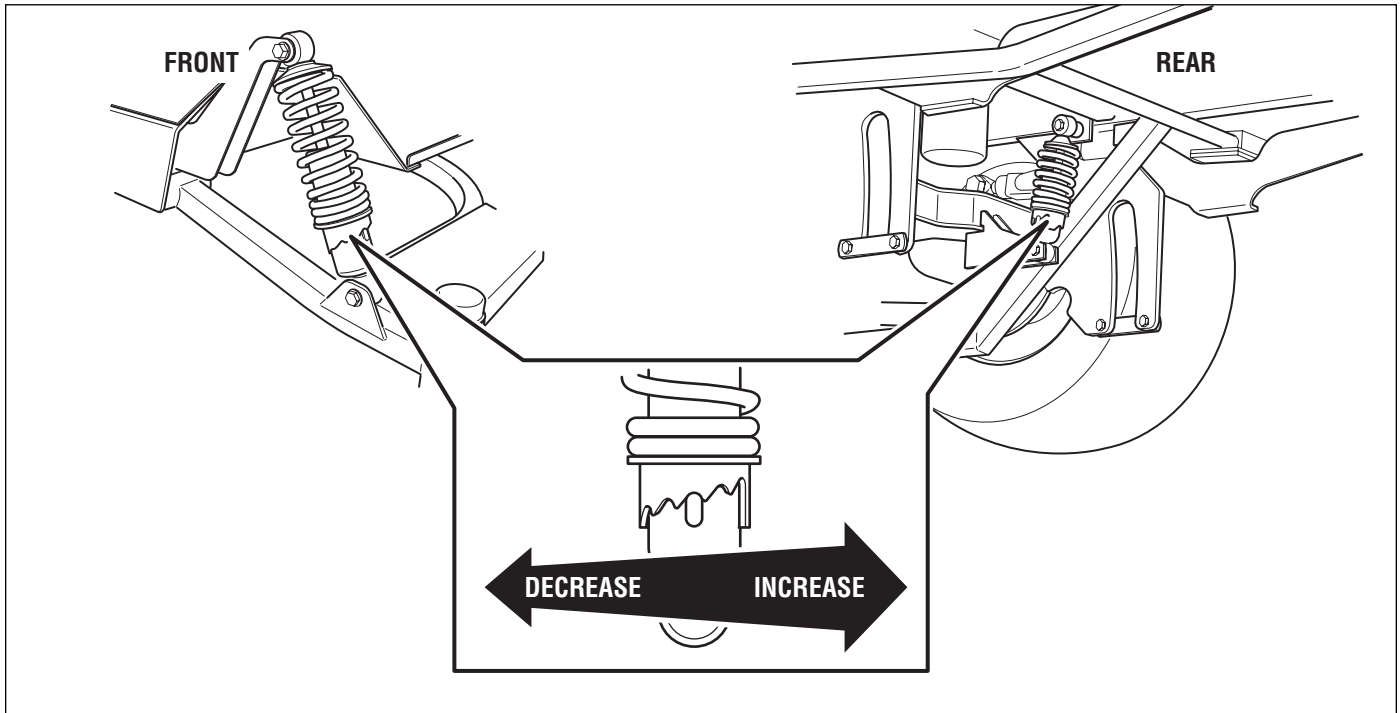

Figure 40. Adjust Spring Pre-Load
1. Locate the pe-load adjuster collar on the shock assembly. See Figure 40.